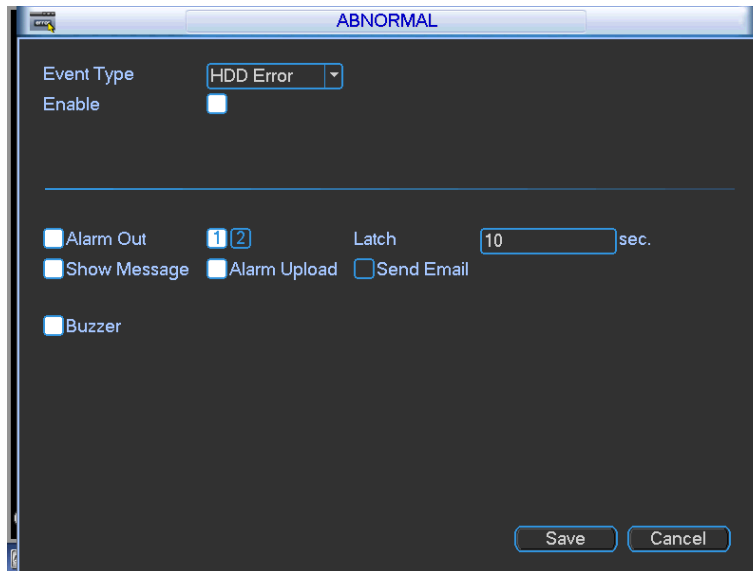

Figure 4-79
- Alarm set: Click alarm set button, the interface is shown as below. See Figure 4-79. (This interface is just like the abnormality setup). Please refer to chapter 4.8.6 for detailed information.